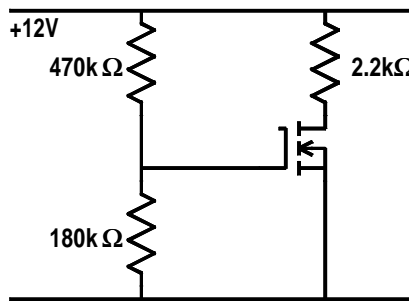

Figure 38.9: Problem 38.4.
38.4 Calculate the drain current and voltage for the circuit in Figure 38.9. Use the MOSFET from Problem 38.3.